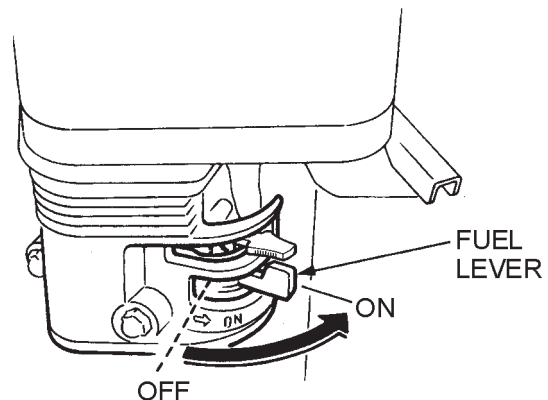

Figure 22. Engine Fuel Valve Lever
1. Place the engine **fuel valve lever** (Figure 22) to the "ON" position.